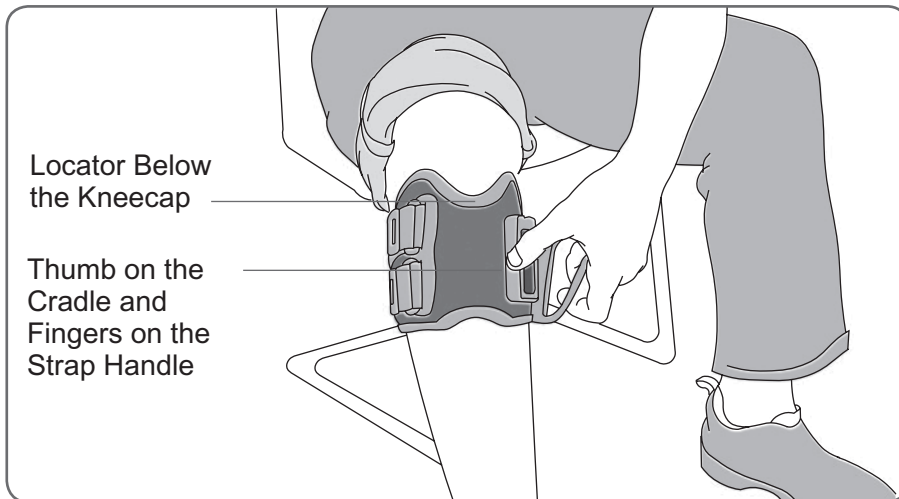

Figure 24: Fastening the L300 FS Cuff strap.
4. Grasp the handle of the L300 FS Cuff strap. See Figure 24. With your thumb on the L300 RF Stim Unit cradle, fasten the strap handle around the cradle.